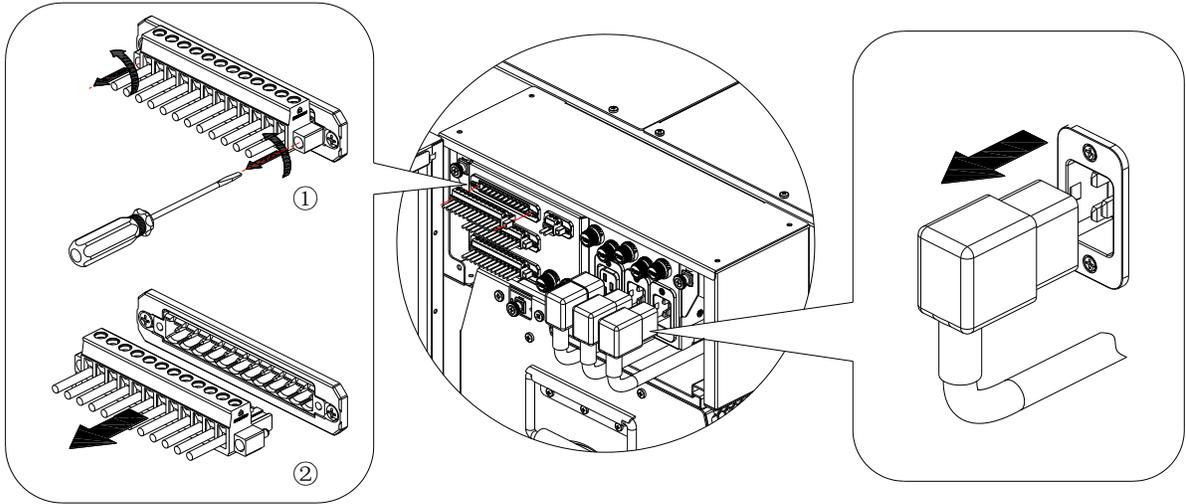

Figure 123. Screws and Plugs Removal
- Use a small flathead screwdriver to remove the fixing screws on the green sockets of the J2 terminal from the power panel and pull out it. (Figure 123)